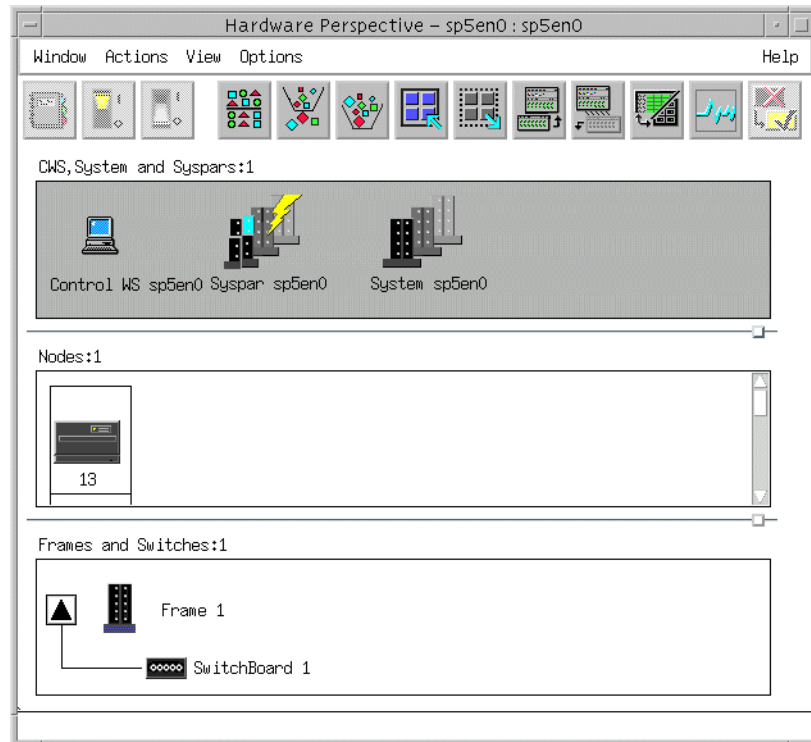

Figure 50. Hardware Perspective with Frames and Switches pane
4. Click the **down arrow** beside the SP frame object. The Frames and Switches pane shows the SP Switch, too. It should look similar to the screen shown in Figure 50 on page 237.